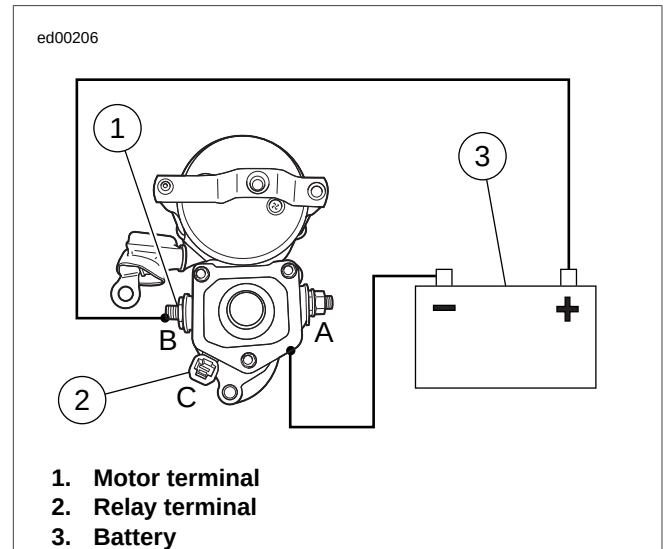

Figure 1-10. Return Test
1. See Figure 1-10. With test leads still connected in the manner specified at the end of the previous 1.6 TESTING